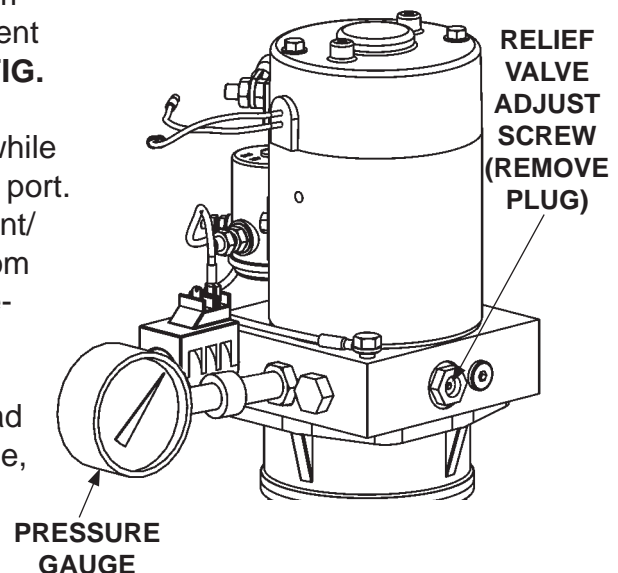

FIG. 47-2
3. With platform on the ground, remove the pressure hose and fitting from the pump and replace it with a 0-4000 PSI pressure gauge. Hold the switch in the "UP" position. Adjust the relief valve on the side of the pump until the gauge shows 3250 PSI (**FIG. 47-2**). Remove gauge and reinstall pressure hose.